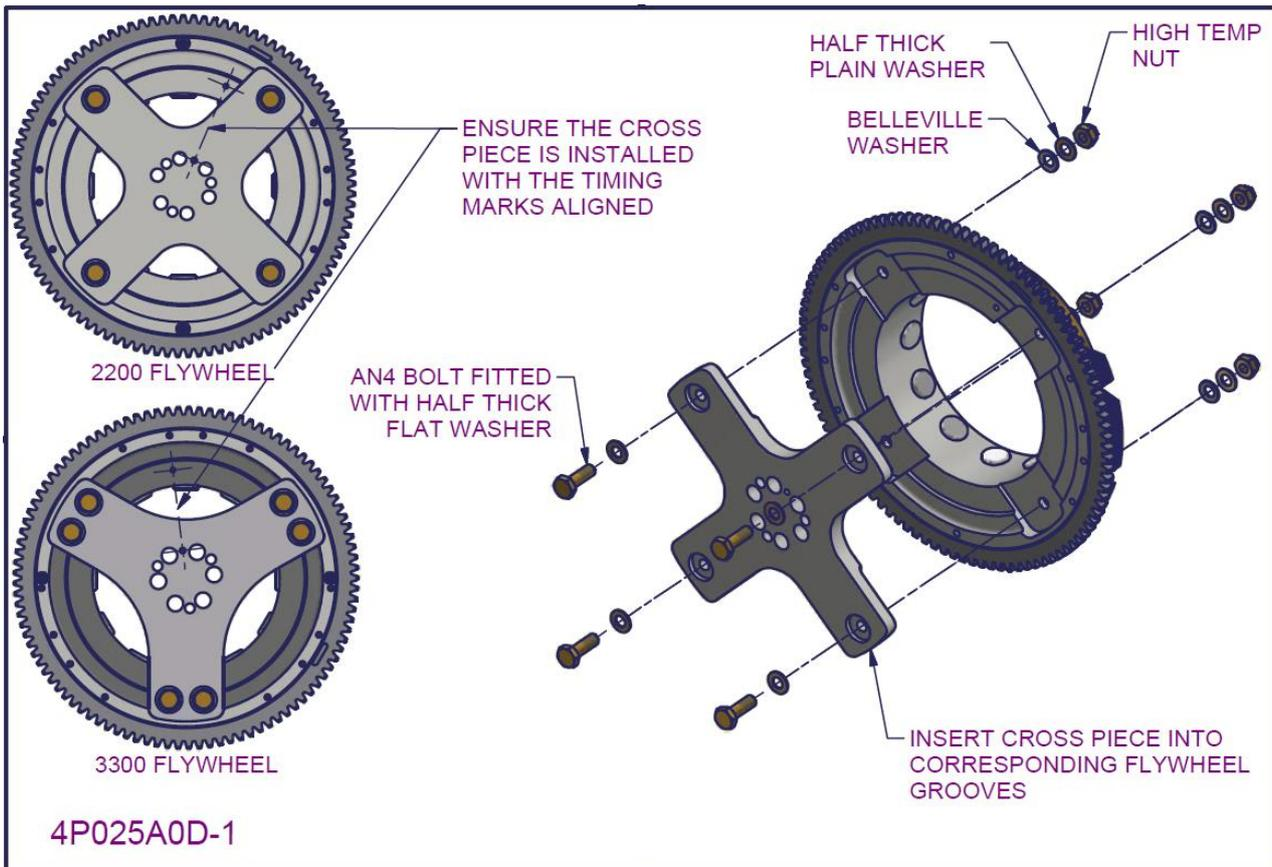

Figure 93 - 2200/3300 Flywheel subassembly (aluminium cross piece) 4
- Ensure that the cross piece is install with the two timing holes correctly aligned as shown in Figure 93